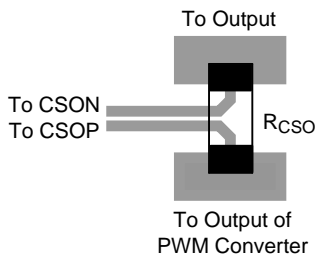

Figure 5. Kelvin Connections for the R_{CSO}
- ▶ Connect the capacitor (between the CSOP and CSON pins) close to these pins. The paths of CSOP and CSON must be directly connected to the terminals of current-sense resistor (R_{CSO}) using Kelvin connections as shown in the layout shown in Figure 5.